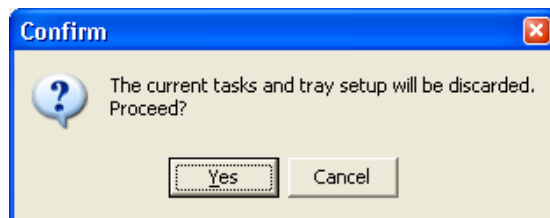

FIGURE 2-34 Confirm Discarding the Tray and Tasks
c) The **Confirm** message box is presented. Choose **Yes** (FIGURE 2-34) if you are willing to lose any unsaved data. If you want to keep the existing tray and tasks setup, quit with **Cancel** and start the wizard from the **File** menu (**New/Application**).